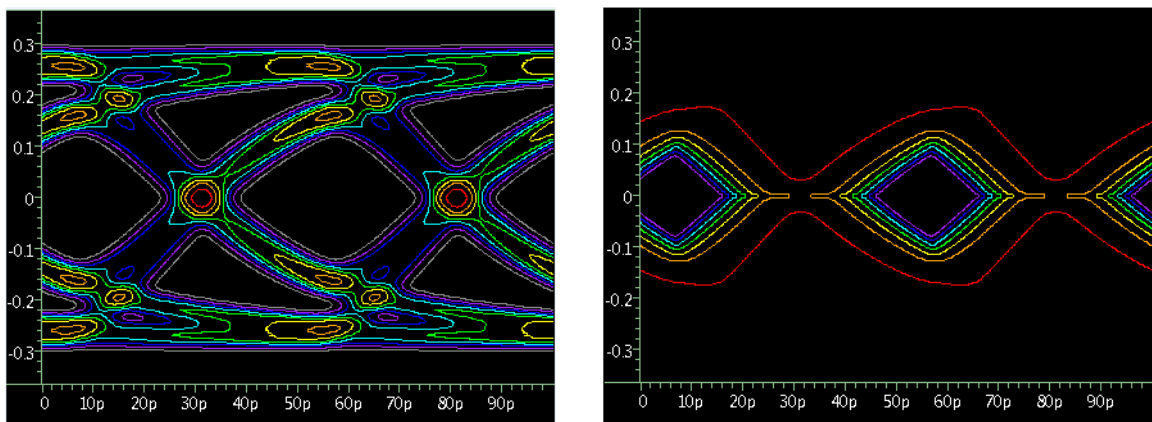

Figure 95 (Left) `eyeC(port_idx)` and (Right) `berC(port_idx)` contour waveforms
- `eyeC(port_idx)` specifies the port to output the eye diagram as contour data (see Figure 95)
- `berC(port_idx)` specifies the port to output the bit error rate as contour data (see Figure 95)